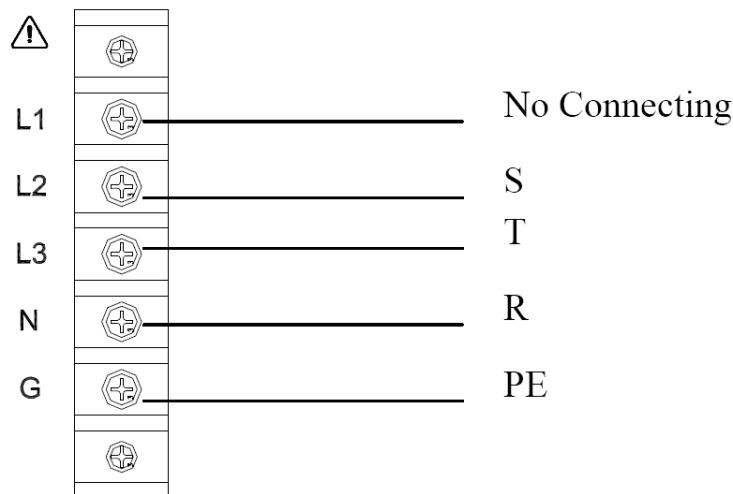

Figure 2-3 220VLL, 3-phase 4-wire Δ Input Connection
- (5) To assemble the 62050P see Figure 2-3 through Figure 2-8.